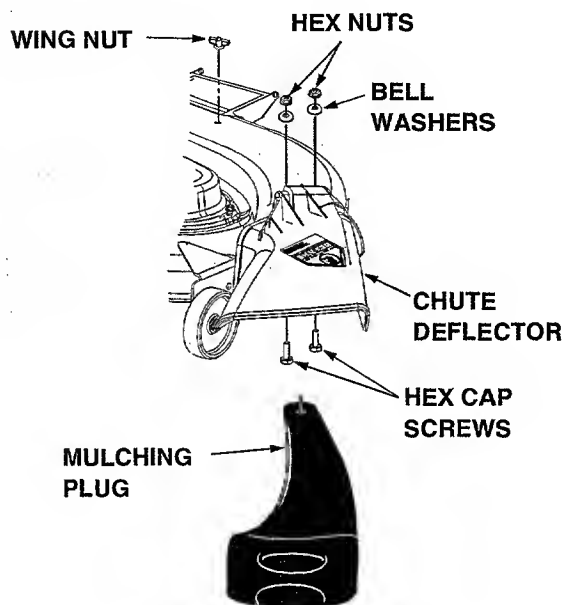

Figure 1
1. Remove the wing nut, press the 1/4" screw down through the deck and withdraw the mulching plug from the discharge chute of the deck. See figure 1.